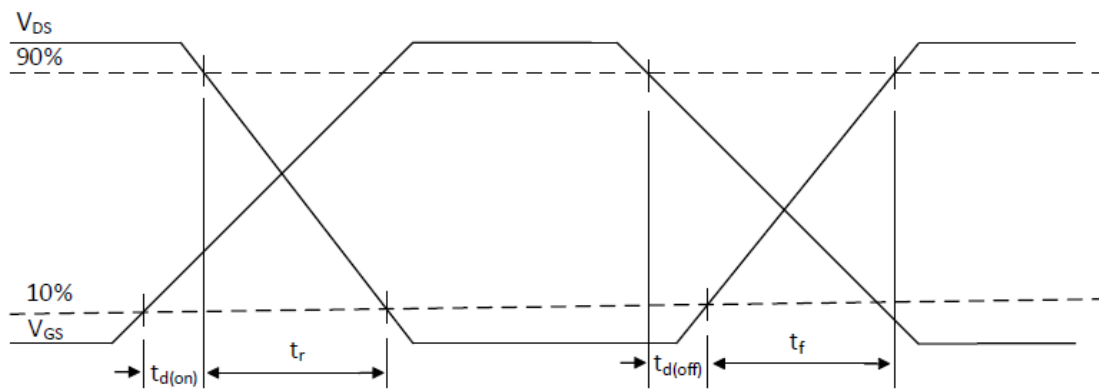

Figure 17: Switching Time Waveforms
(7) See Figure 17 for switching time definition waveforms.